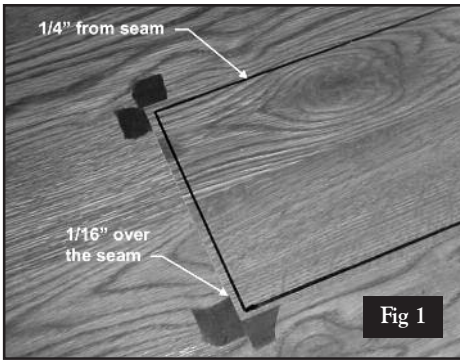

Fig 1
2. Apply blue easy release tape 1/16" inside the seams of the damaged plank at the marked cut out lines as an indicator on where to stop cutting, so as not to damage the surrounding planks/tiles (see Fig. 1).